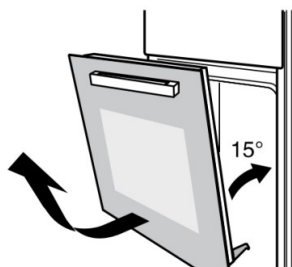

Figure 2
2. Close the oven door, at about 15 degree, then lift the door, and slowly pull out from the oven (Figure 2).